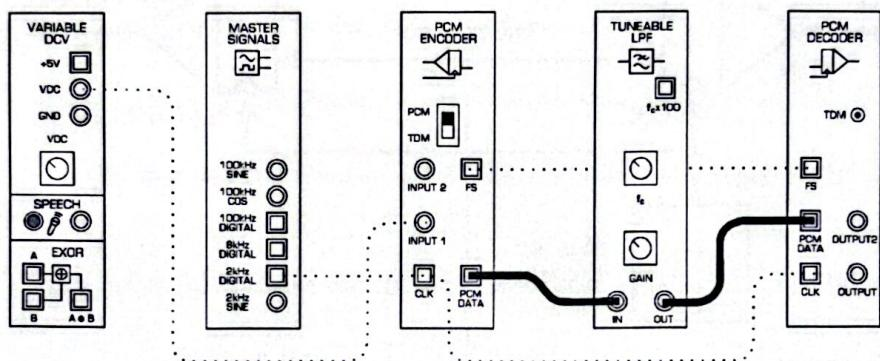

Figure 5
12. Modify the set-up as shown in Figure 5 below leaving the scope connections as they are.